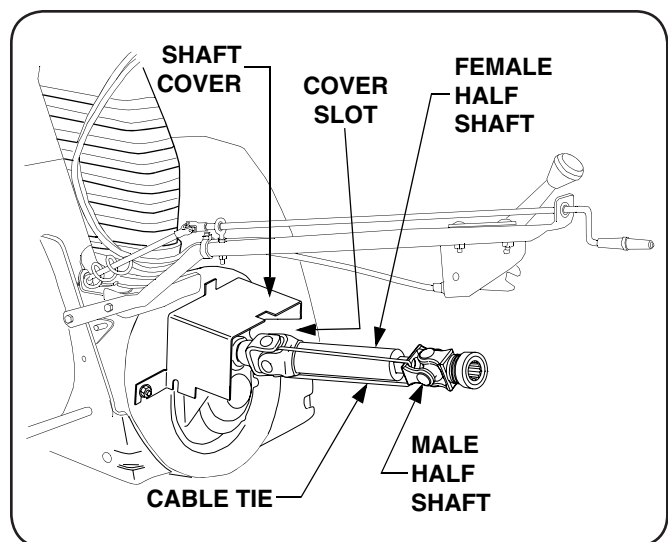

Figure 4-5
- Cut the cable tie holding the two halves of the drive shaft together and slide the male half from the female half (See Figure 4-5).
- Pivot the female half shaft to the right and place in the slot in the right side of the shaft cover (See Figure 4-5).